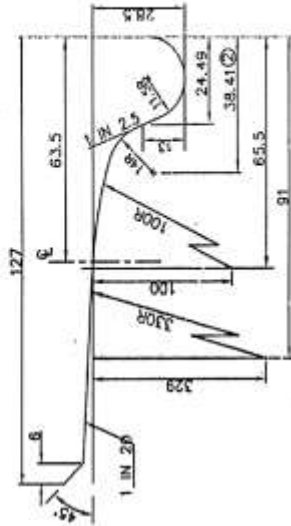
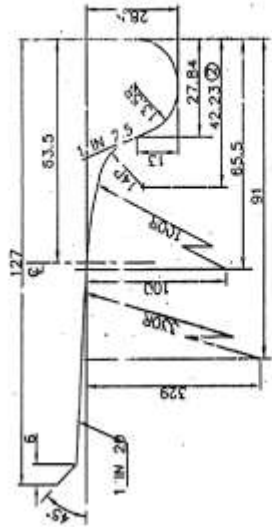

FIG.6: 25mm THICK FLANGE
FIG.9: 28mm THICK FLANGE
1. INTERMEDIATE WORN WHEEL PROFILES OF 25mm TO 28mm THICK FLANGE (FIG.6 TO FIG.9) SHOULD ONLY BE USED FOR THE COACHES TO RUN AT MAXIMUM PERMITTED SPEEDS OF 110 kmph AND ABOVE.